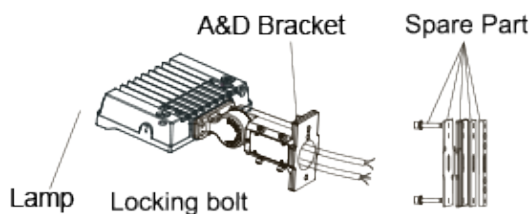

Figure 4.1
Step 1: Remove the spare parts from A&D bracket. (Figure 4.1).
Step 3: Place the bracket into the pole and lock the four bolts. (Figure 4.1)